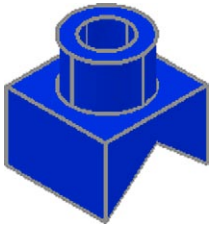

Fig. 16.13 First example – **Realistic** view of a 3D model of the chimney
9. Make layer **Chimney** current and construct a 3D model of the chimney (Fig. 16.13).